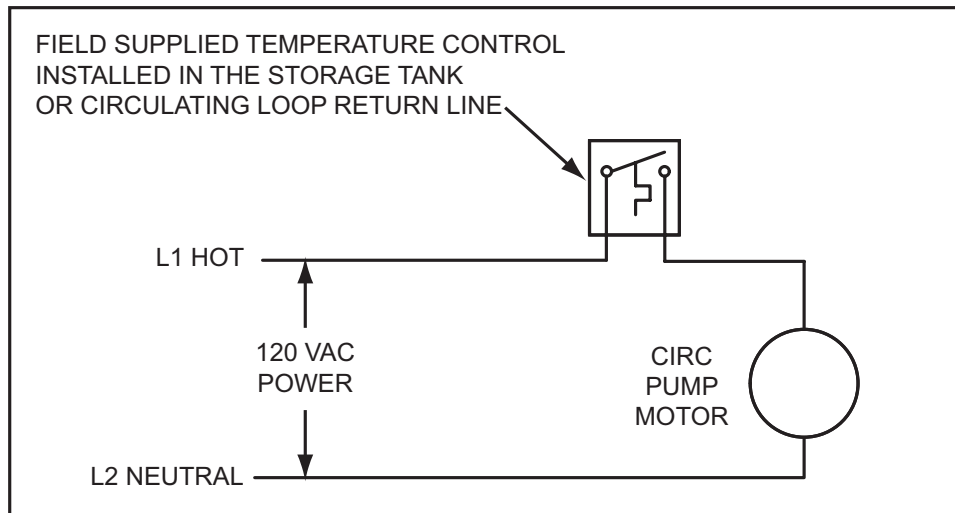
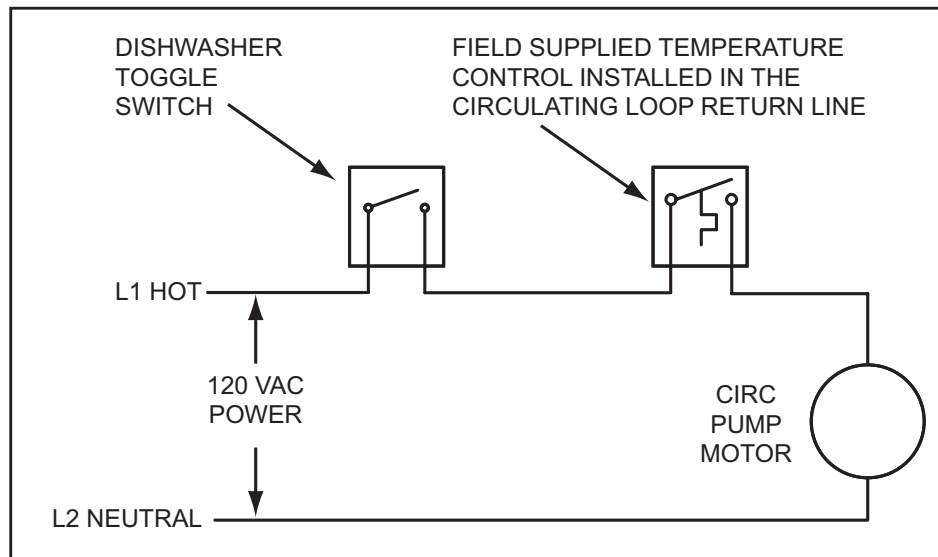

Figure 64
Figure 65
6. If a pump is being installed between a water heater and storage tank or on a building recirculation loop wire according to Figure 64 on page 66.
7. If a pump is being installed in a recirculation loop between the water heater and a commercial dishwasher wire according to Figure 64 or Figure 65 on page 66.